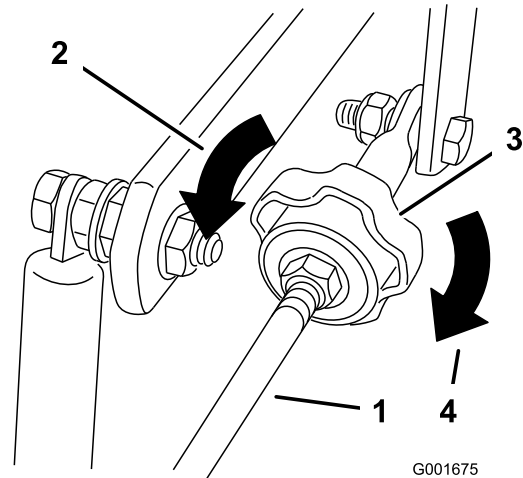

Figure 39
4. To make the machine go right, turn the knob towards the right-side of the machine. Refer to Figure 39.
5. To make the machine go left, turn the knob towards the left-side of the machine. Refer to Figure 39.